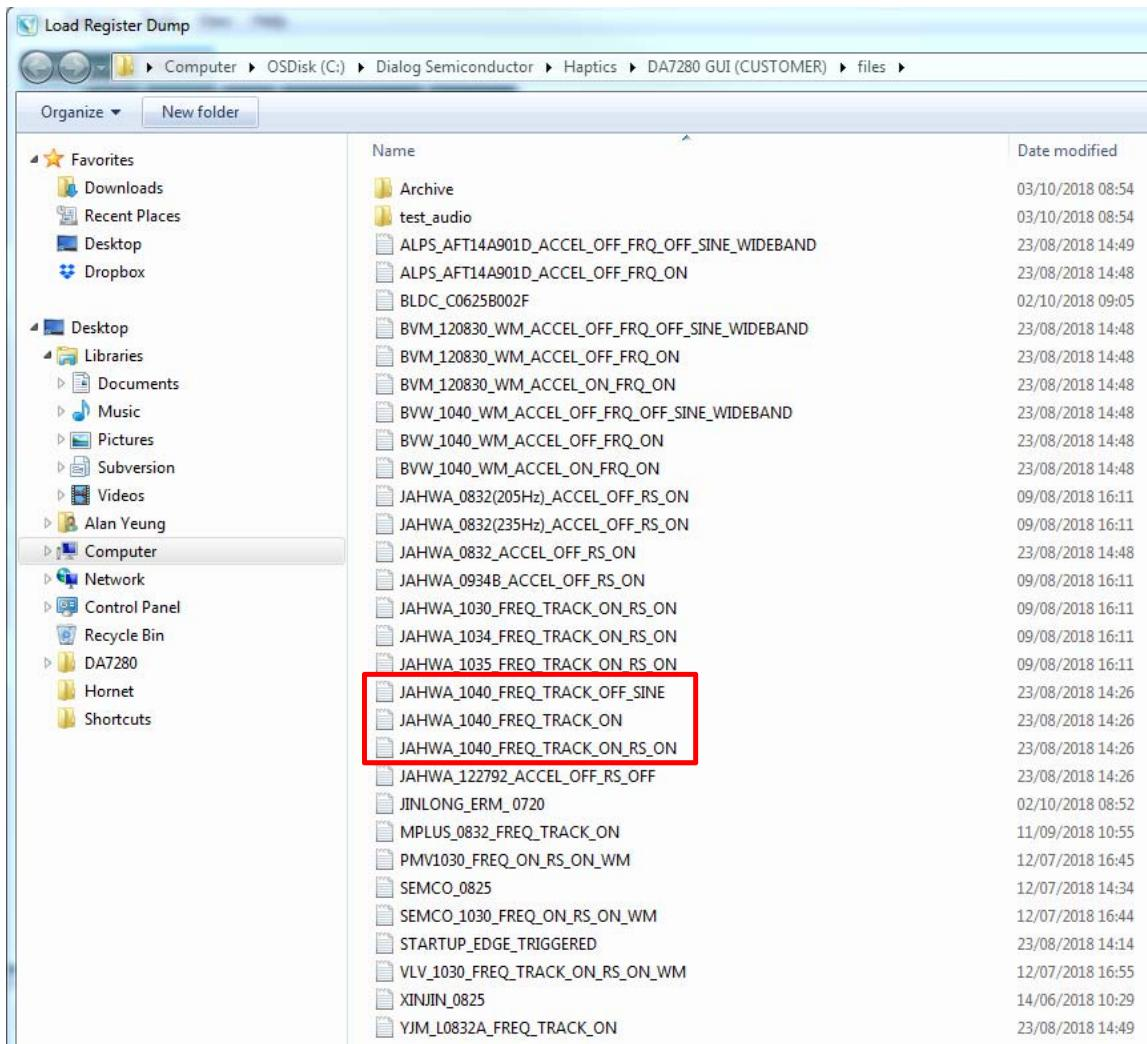

Figure 13: Load Register Dump
2. Select the required .txt download script for the Jahwa LRA from the **Load Register Dump** popup window, see Figure 13. For the supplied LRA only download scripts with 'JAHWA_1040' prefix.